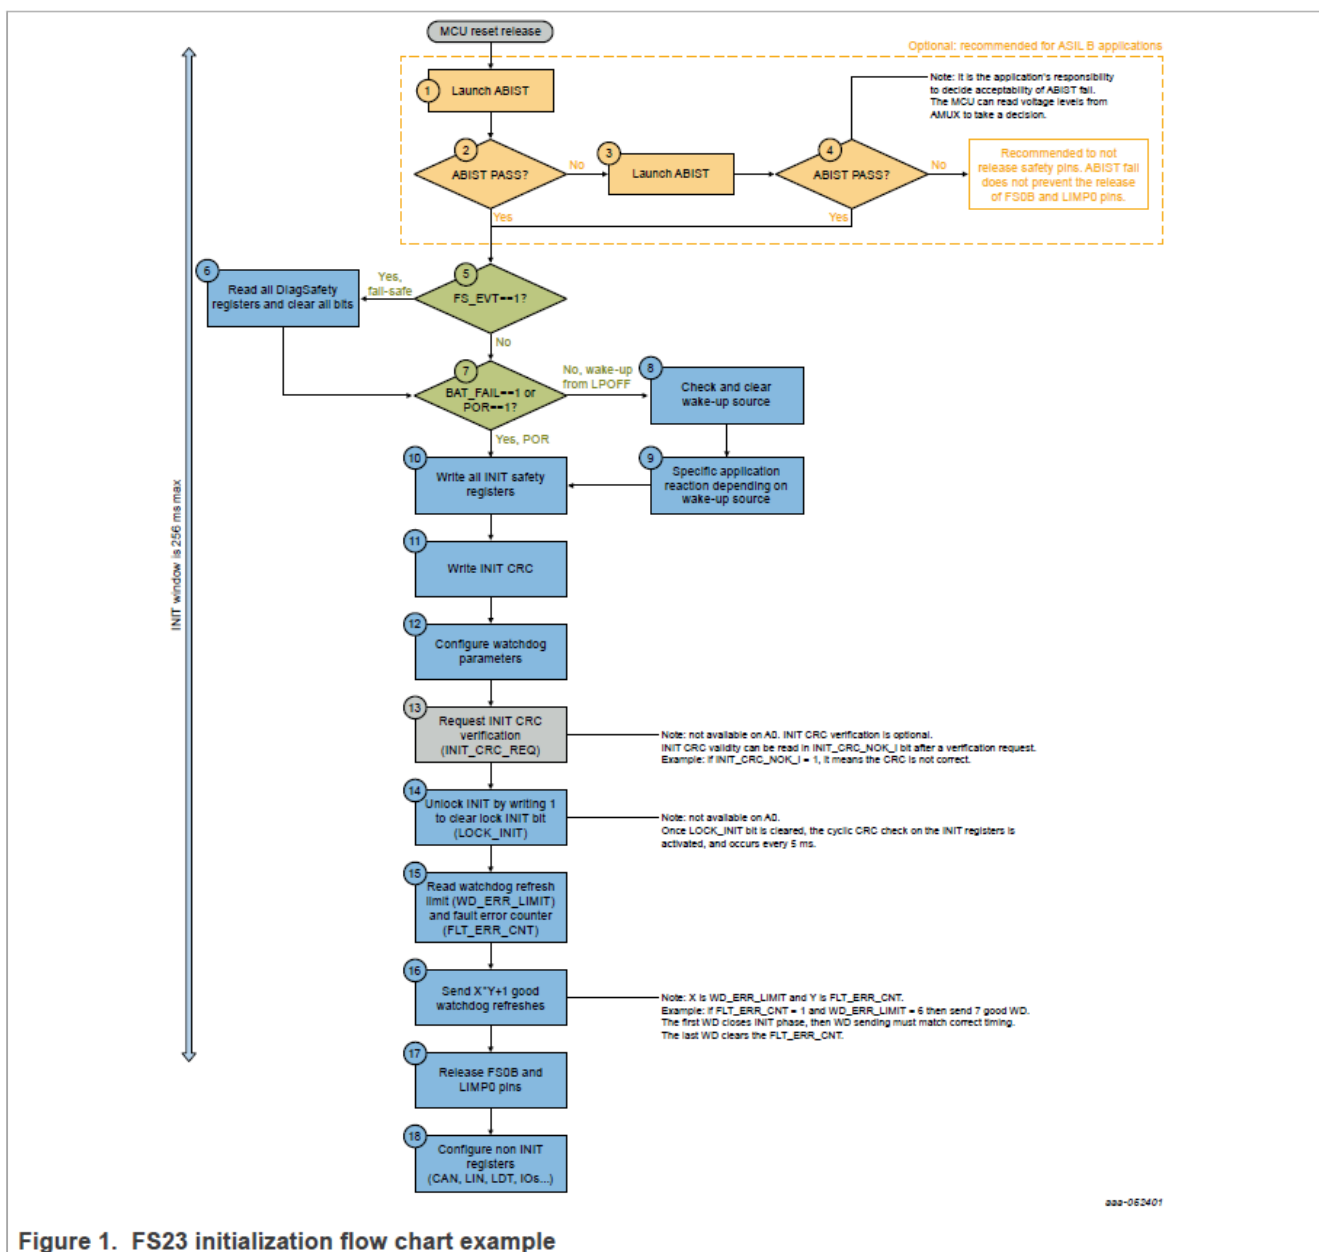

Figure 1. FS23 initialization flow chart example
- Figure 1 gives an example of FS23 software initialization. After MCU reset is released (RSTB state is high), the MCU can start FS23 initialization. The initialization must be done within the dedicated 256 ms INIT window.